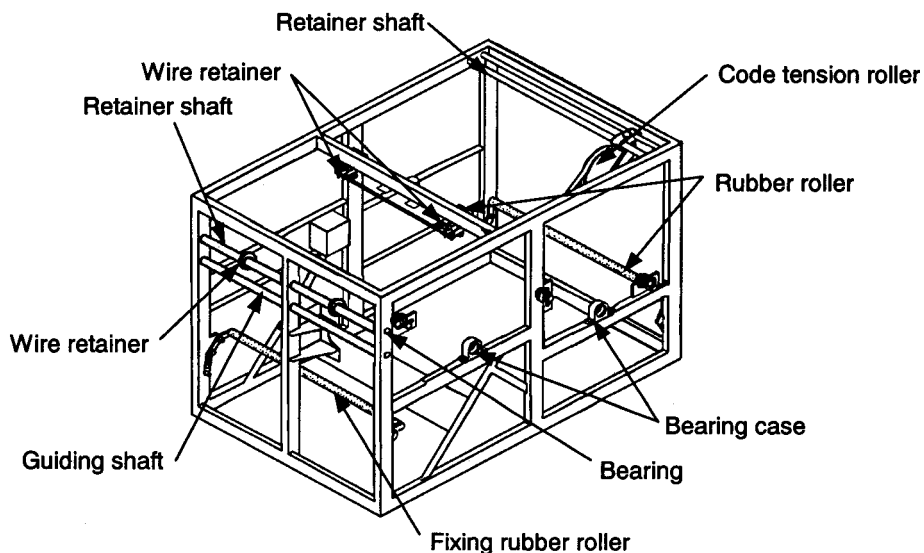
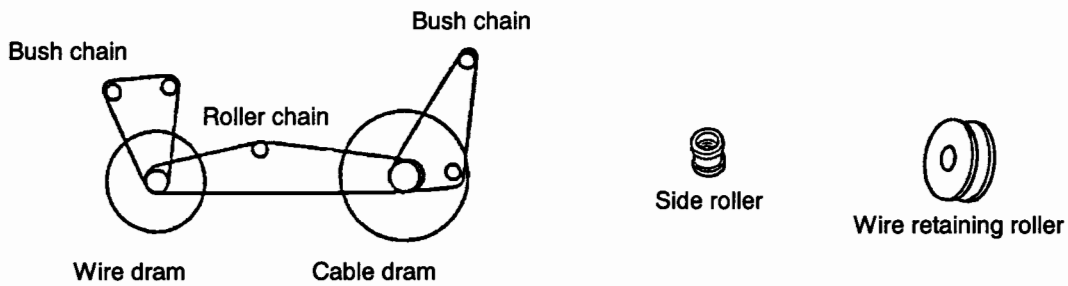

Figure 7.2 Greasing points in the Winch unit (1)
Figure 7.3 Greasing points in the Winch unit (2)
- (2) After cleaning, apply grease to the rotating sections in the wire retainer rollers and the wire support chassis. Also apply mechanical oil to the driving chain. Refer to Figure 7.2 and Figure 7.3.